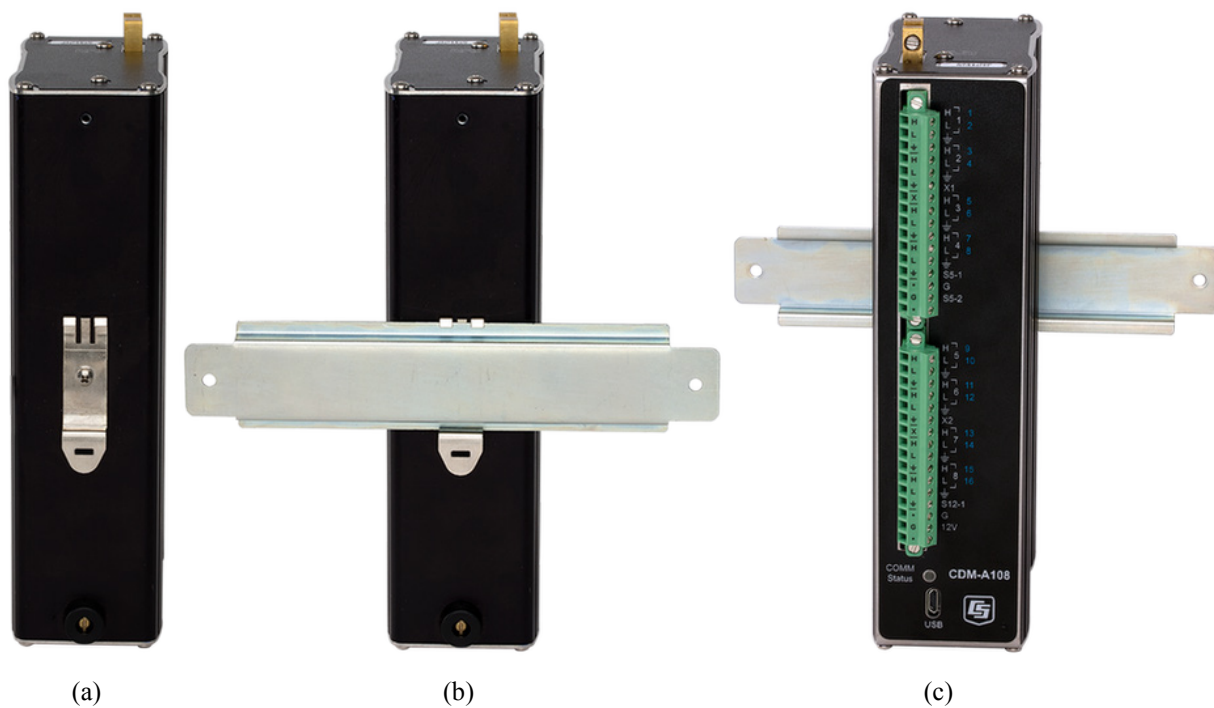

FIGURE 7-5. Mounting the CDM-A108 to a DIN rail
3. Use the screw from the kit to attach the metal clip to the middle hole, with the comb pointing up as shown in FIGURE 7-5 (a).
4. Clip the CDM-A100 to a DIN rail. See FIGURE 7-5 (b) and (c).